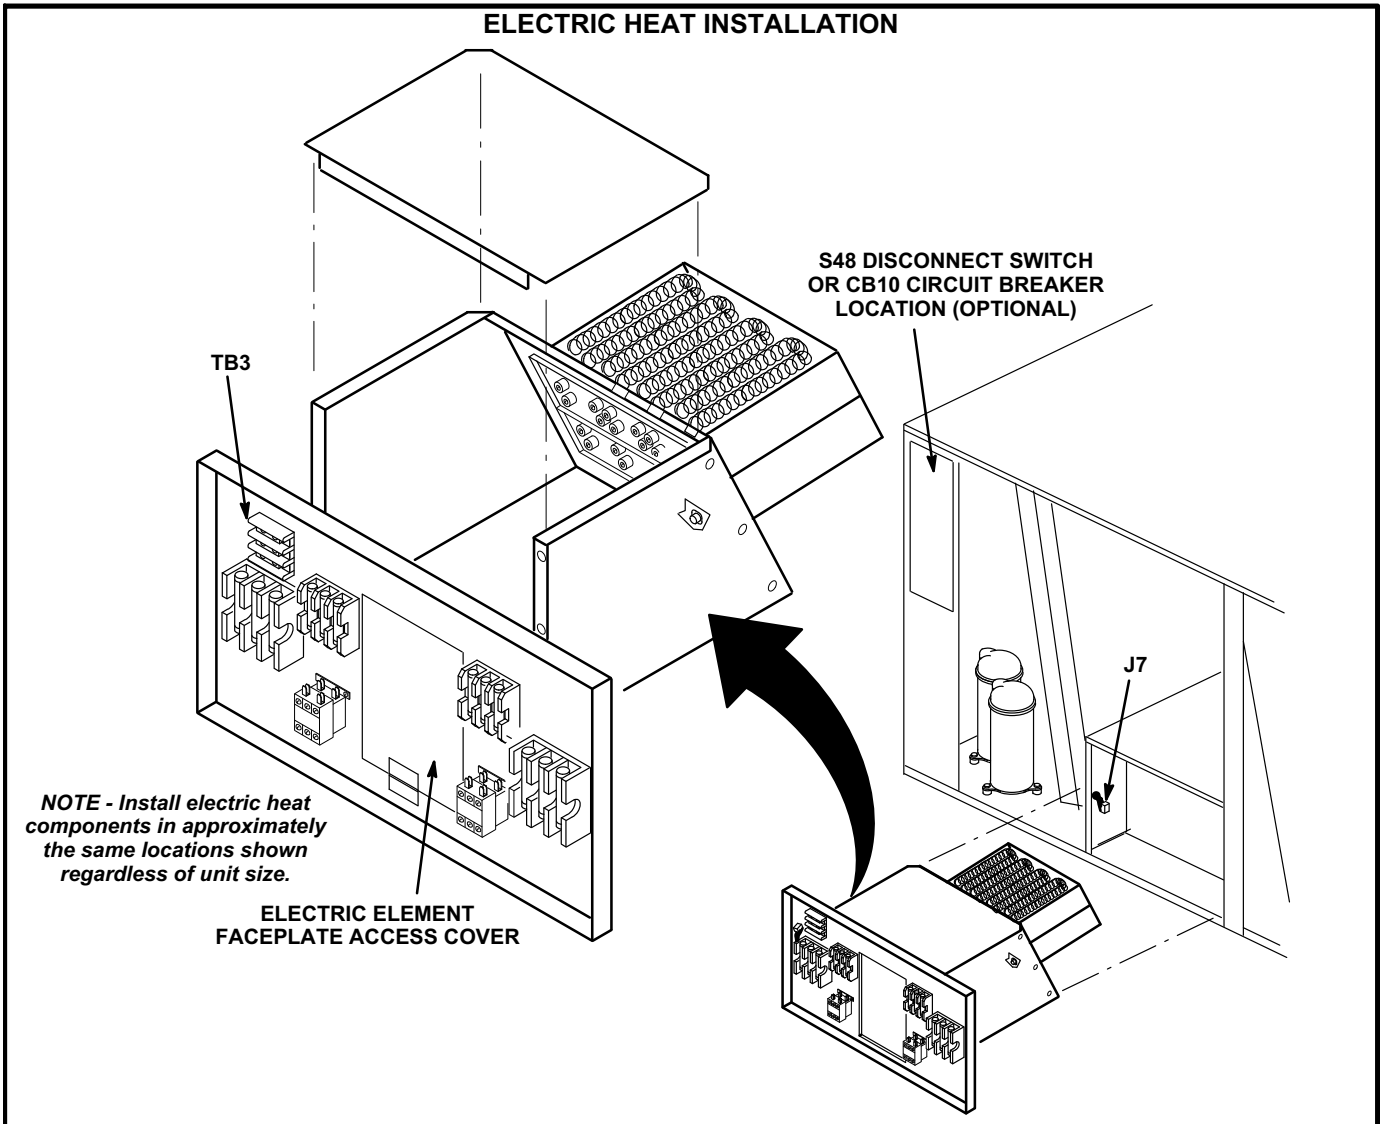

FIGURE 1
- 3- Insert electric element heat assembly into rectangular vestibule opening and secure assembly using screws provided. See figure 1.